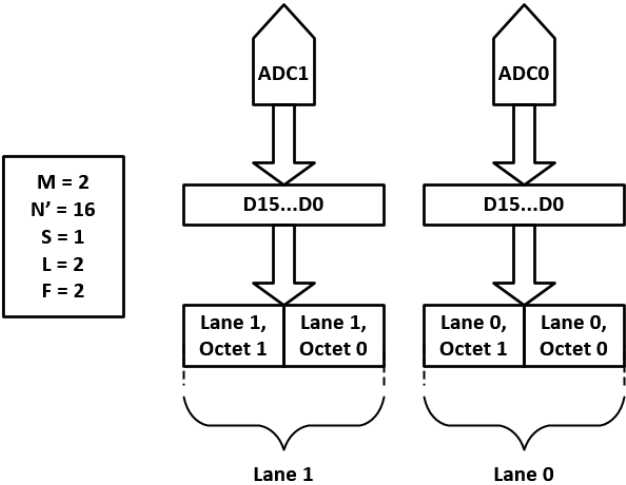
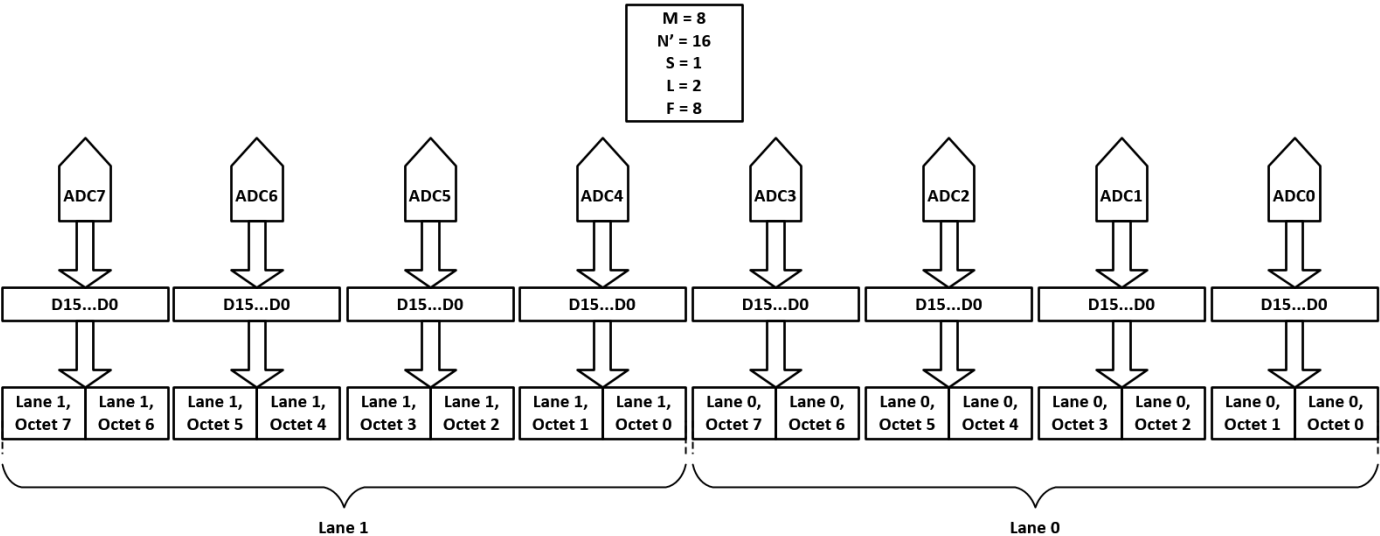

Figure 48. Converter Data Samples Mapping Example with M = 2, N' = 16, S = 1, and L = 2
Figure 49. Converter Data Samples Mapping Example with M = 8, N' = 16, S = 1 and L = 2
The mapping changes depending on the number of lanes (L), the number of converters (M), the samples bit width (N'), and the number of samples per converter (S). Figure 48 and Figure 49 provide two examples of converter data samples mapping by the transport layer for two different sets of M, N', S and L parameters.